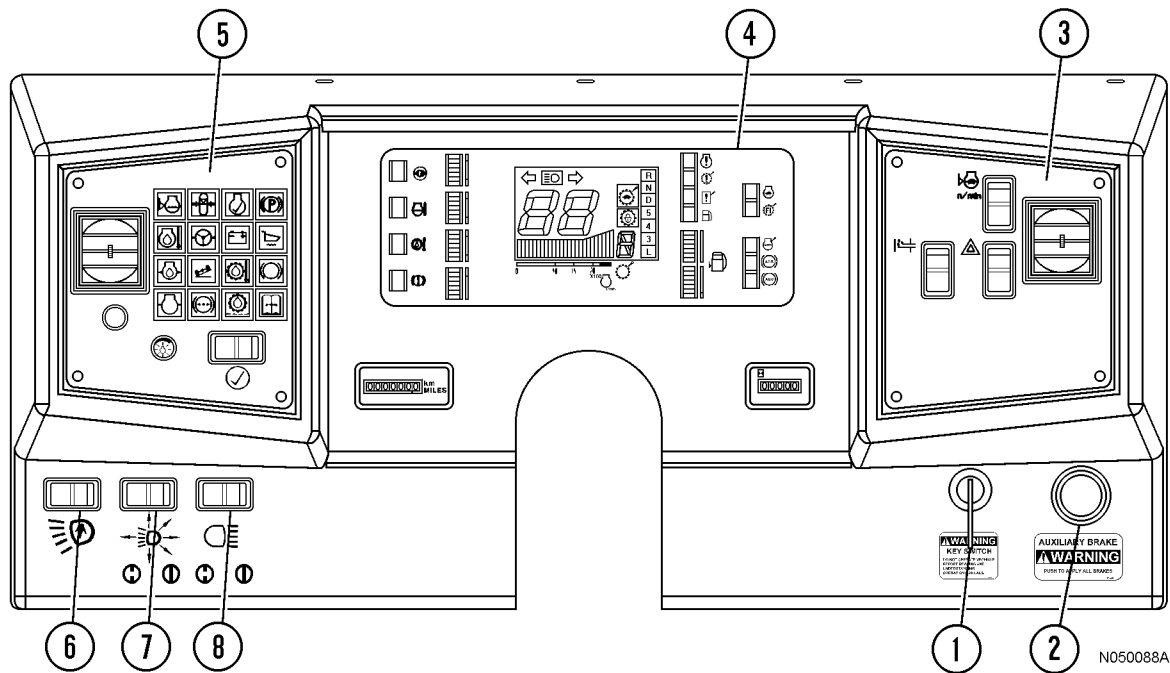
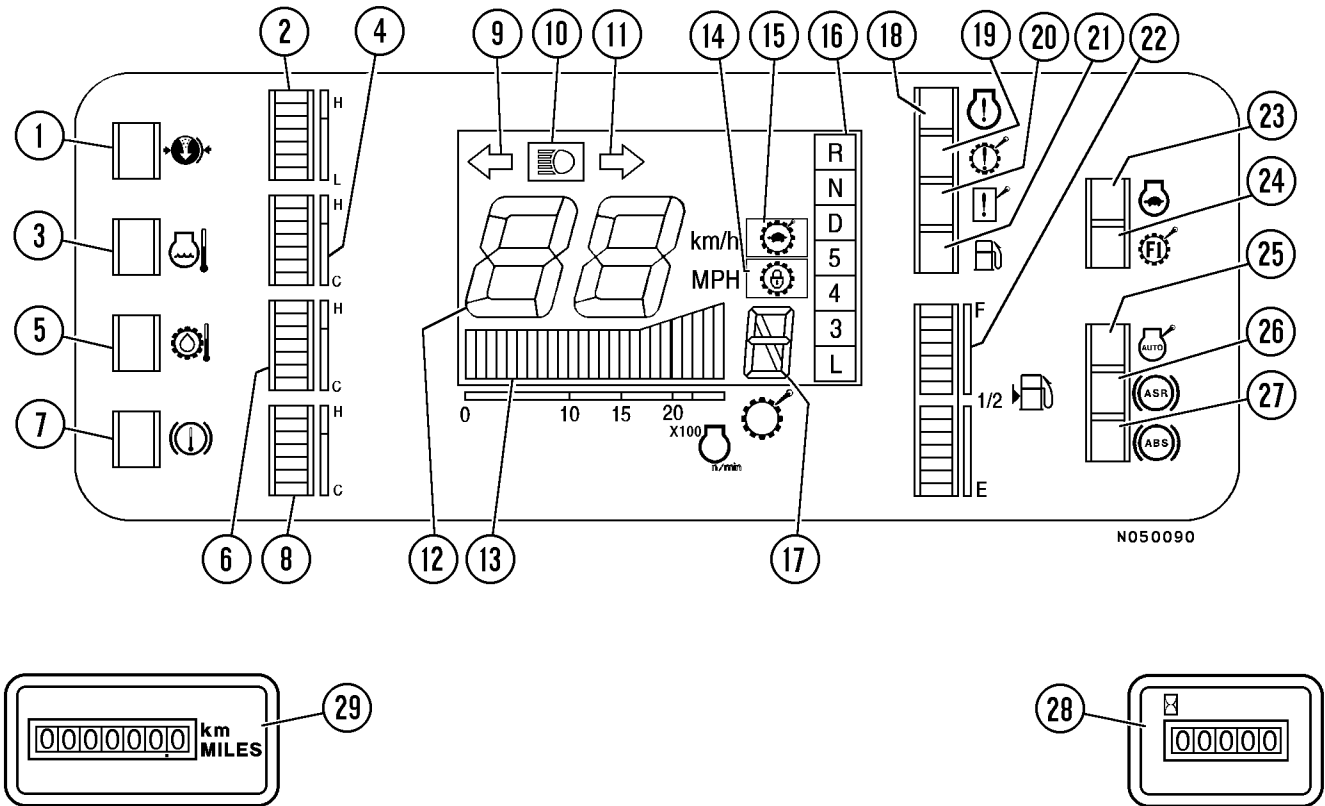

FIGURE 32-6. INSTRUMENT PANEL
FIGURE 32-8. CENTER DISPLAY PANEL
1. **Headrest:** (1, Figure 32-6) will move up, down, fore, or aft by moving the headrest to the desired position.
3. **Backrest:** Lift handle (3) to release and select the backrest angle. Release the control handle to set.
4. **Seat Belt:** The operator must always have seat belt (4) buckled in place and properly adjusted whenever the vehicle is in motion.
5. **Seat Slope:** Lift lever (5) and hold to adjust the slope of the seat. Release the lever to lock the adjustment.
6. & 7 **Air Lumbar Support:** Each rocker switch (6 or 7) controls an air pillow. Switch (7) controls the lower air pillow and switch (6) controls the upper air pillow. To inflate, press on top of rocker switch and hold for desired support, then release. To deflate, press on the bottom of the rocker switch and hold for desired support, then release. Adjust each pillow for desired support.
8. **Seat Suspension:** Adjust switch (8) to obtain the desired stiffness of the adjustable suspension. Press the switch upward to stiffen the absorbency of the suspension. Press the switch downward to soften the ride.
9. **Fore/Aft Location of Seat:** Lift lever (9) and hold. Bend knees to move the seat to a comfortable position. Release the control lever to lock the adjustment.
12. **Seat Height:** Lift and hold lever (12) to adjust the height of the seat. Release the lever to lock the position.
Keyswitch (1, Figure 32-6) is a three position (OFF, RUN, START) switch.
Auxiliary brake switch (2, Figure 32-6) applies the auxiliary brake.
RH control/indicator panel (3, Figure 32-6), located to the right of the steering wheel, provides an array of switches and controls. For detailed information on this assembly, refer to RH Control/Indicator Panel (Pod) later in this section.
Center display panel (4, Figure 32-6) provides an array of gauges and monitors, with an odometer module) and a service/hour meter module. For detailed information on this assembly, refer to Center Display Panel later in this section.
LH control/indicator panel (5, Figure 32-6), located to the left of the steering wheel, provides an array of indicator/monitor lights and three switches. For detailed information on this assembly, refer to LH Control/Indicator Panel (Pod) later in this section.
Ladder light switch (6, Figure 32-6) turns the ladder lights on or off after or before using the ladder. A similar switch is available at ground level to turn the ladder lights on or off.
The instrument panel lights, clearance lights, and the headlights are controlled by this three position rocker type switch (7, Figure 32-6). OFF is selected by pressing the left side of the switch. Press the right side of the switch until it reaches the first detent (middle) to select the panel, clearance, and tail lights, only. Press the right side of the switch again, until it reaches the second detent to select the headlights, as well as panel, clearance, and tail lights.
Backup/deck light switch (8, Figure 32-6) allows backup lights to be turned on providing added visibility and safety when the transmission range selector lever (see Operator Controls) is not in the REVERSE position.
RH control/indicator panel (3, Figure 32-6), located to the right of the steering wheel, contains the following:
Center display panel (4, Figure 32-6) consists of a gauge and monitor module (1 - 27, Figure 32-8), with an odometer module (29) and a service/hour meter module (28). Liquid crystal is used for the display area.
Air pressure monitor (1, Figure 32-8) is not used on this truck.
Air pressure gauge (2, Figure 32-8) is not used on this truck.
Coolant temperature monitor (3, Figure 32-8) indicates a rise in the cooling water temperature.
Engine cooling water temperature gauge (4, Figure 32-8) indicates the temperature of the cooling water. If the temperature is normal during operation, the green range will light. If the red range lights during operation, the alarm buzzer will sound, the central warning lamp will flash and the coolant temperature monitor lamp will flash at the same time. If this occurs, stop the machine and operate the engine with no load at 1200-1500 rpm until the green range lights.
Torque converter oil temperature monitor (5, Figure 32-8) indicates a rise in the torque converter oil temperature.
Torque converter oil temperature gauge (6, Figure 32-8) indicates the temperature of the torque converter oil. If the temperature is normal during operation, the green range will light. If the red range lights during operation, the alarm buzzer will sound, the central warning lamp will light up and the torque converter oil temperature monitor lamp will flash at the same time. If this occurs, stop the machine and run the engine with no load at 1200-1500 rpm until the green range lights.
Retarder oil temperature monitor lamp (7, Figure 32-8) indicates the retarder oil temperature has risen.
Retarder oil temperature gauge (8, Figure 32-8) indicates the temperature of the retarder cooling oil. During normal operation, the green range should be illuminated.
When the turn signal lever is moved downward, left turn signal pilot lamp (9, Figure 32-8) flashes.
High beam pilot lamp (10, Figure 32-8) lights up when the head lamps are on high beam.
When the turn signal lever is moved upward, right turn signal pilot lamp (11, Figure 32-8) flashes.
Digital speedometer (12, Figure 32-8) indicates the travel speed of the truck in miles per hour, or kilometers per hour. This figure will appear momentarily when the keyswitch is first turned ON to demonstrate that all segments are working.